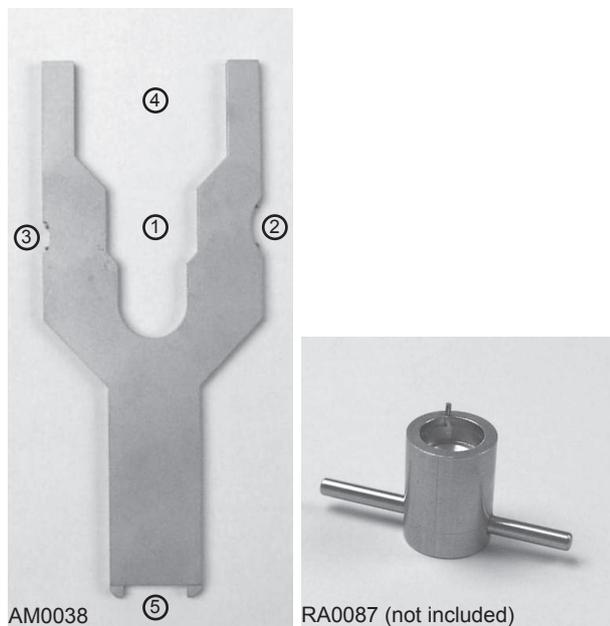

Fig. 2.5 Special tools for dismantling the Outdoor Microphone System; left to right:
The circled numbers refer to which part of the special tool AM0038 (Fig. 2.5) to use
6. Use the special key RA0087 (Fig. 2.5) to unscrew the actuator housing (right-hand thread) and remove the spacer and insulator rings placed around the microphone capsule. Be very careful not to damage the diaphragm of the microphone capsule.
For access to the electronics assembly, do the following. The circled numbers refer to which part of the tool AM0038 (Fig. 2.5) to use: